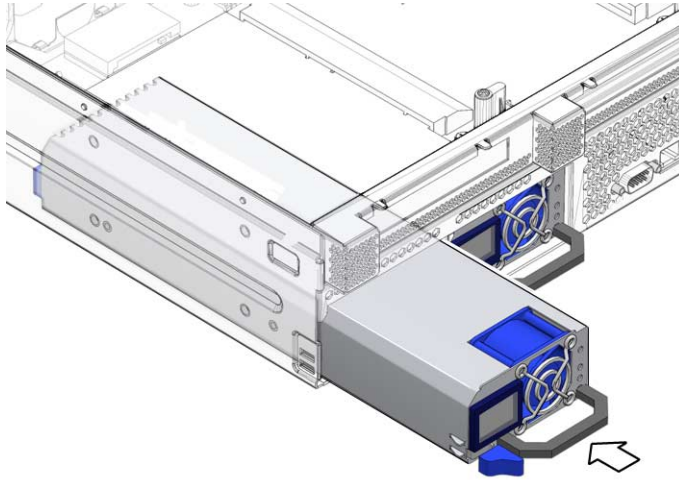

FIGURE 3-72 Installing a Power Supply Into the Chassis
3. Slide the power supply into bay until it is fully seated (FIGURE 3-72).